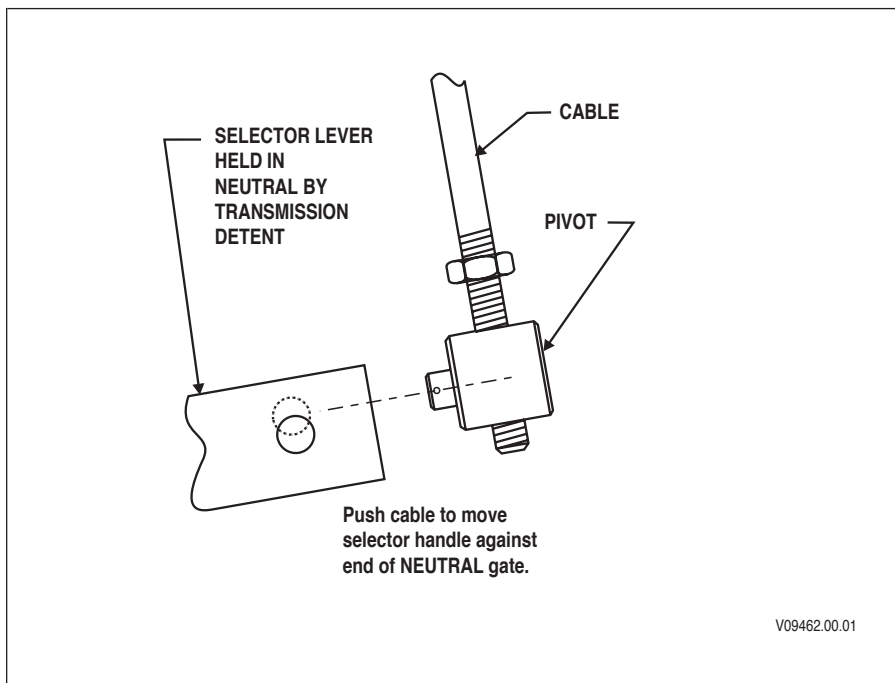

Figure 3–2. Proper Shift Selector Cable Adjustment
4. At the transmission end of the cable, push the cable to move the shift handle against the end of the shift selector neutral gate. Note the position of the pivot at the end of the cable with respect to the hole in the selector lever (refer to Figure 3–2).
5. Pull the cable to move the shift handle against the opposite end of the shift selector neutral gate. Note the position of the pivot at the end of the cable with respect to the hole in the selector lever (refer to Figure 3–3).